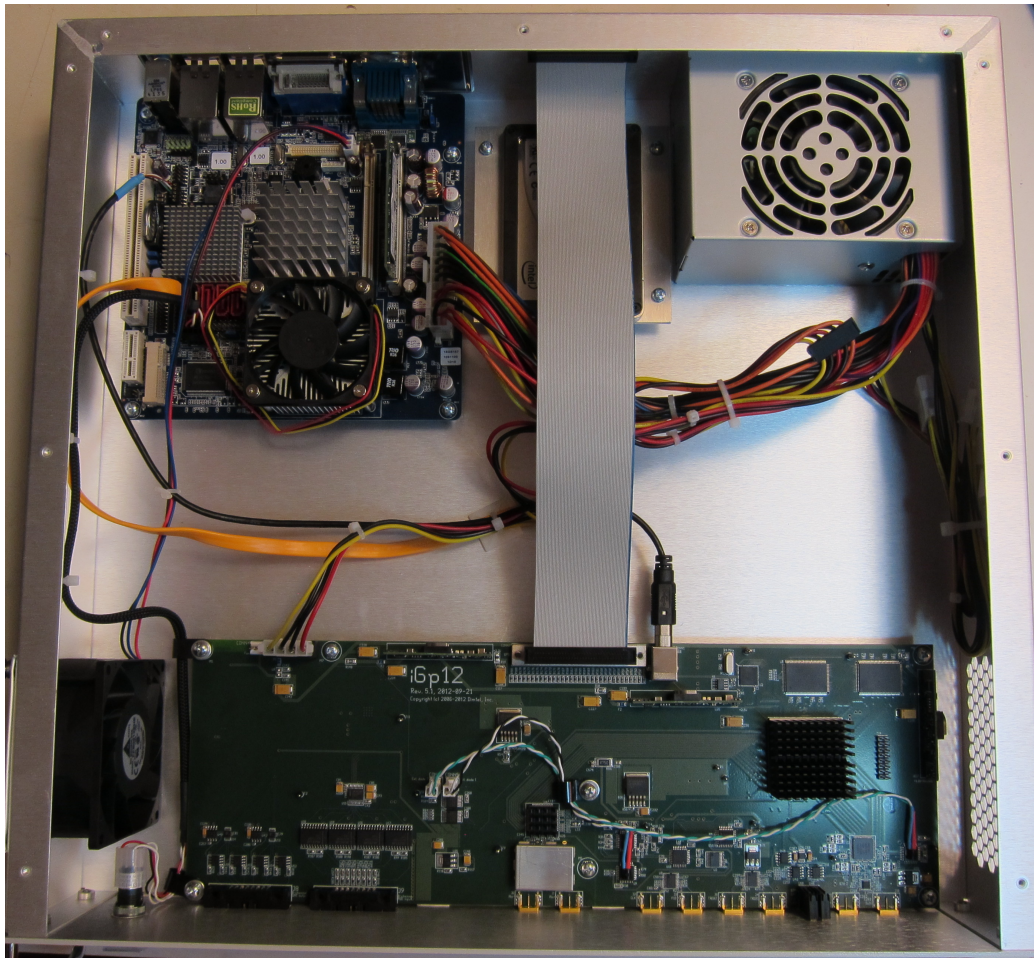

Figure 47: Top view of the complete assembly.
17. A photo of fully assembled chassis is shown in Figure 47.